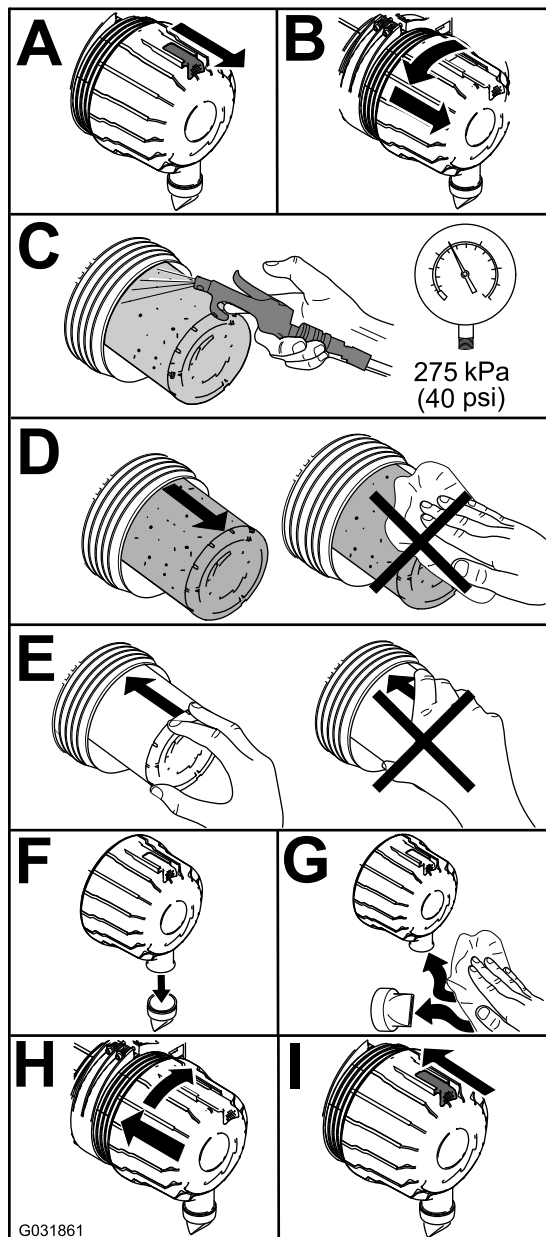

Figure 57
1. Replace the air cleaner (Figure 57).